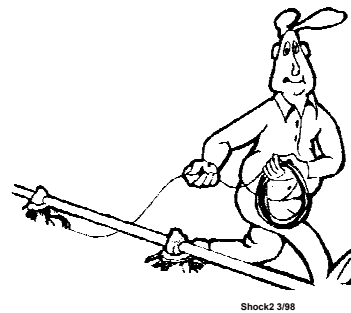

Figure 73. Unrolling the Cable
1. Unroll the bulk anti-roost cable. Note: If the cable is unrolled as shown in **Figure 73**, taking 5 loops of the coil with one hand, then changing hands to remove 5 loops as it is unrolled, it will lie flat during installation.